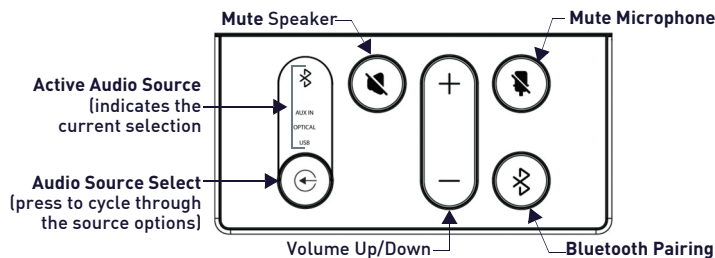

FIG. 8 ACV-2100 LEFT SIDE PANEL KEYPAD
All controls and LEDs are on the left side panel of the ACV-2100 (FIG. 8):
- Press and hold both the **Source Select** and **Bluetooth Pairing** buttons on the ACV-2100 (see FIG. 8). After 3-5 seconds the LEDs on the remote control should stop flashing to indicate the remote control has paired.
- Press the **Bluetooth Pairing** button on the ACV-2100 or the remote control to initiate pairing (see FIG. 8). The Bluetooth button will flash on both the ACV-2100 and the remote control. **Note:** To exit pairing mode without pairing a device, press either Bluetooth button again for 5 seconds.
In order for the Acendo Vibe Configuration Tool to communicate with the ACV-2100, the unit must be in Setup Mode. To place the ACV-2100 in Setup Mode, press the **Audio Source Select** and **Mic Mute** keys on the ACV-2100 (see FIG. 8) simultaneously for 3 seconds. All of the LEDs blink to indicate that the unit is in Setup Mode.